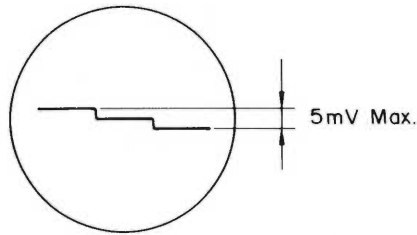

Fig. 4-6-9
- 4) As in the item 1 RMS SYM, set the deck CH 1 (\sim 4) at REC/PAUSE mode using dbx IN.
- 5) Adjust the half-fixed resistor R713 (\sim R743) in a way that waveform of the oscilloscope obtains the minimum voltage value (maximum; less than 5mV) as shown in Fig. 4-6-9.
- 4) Check waveform on the oscilloscope is less than 5mV (Refer to Fig. 4-6-9).